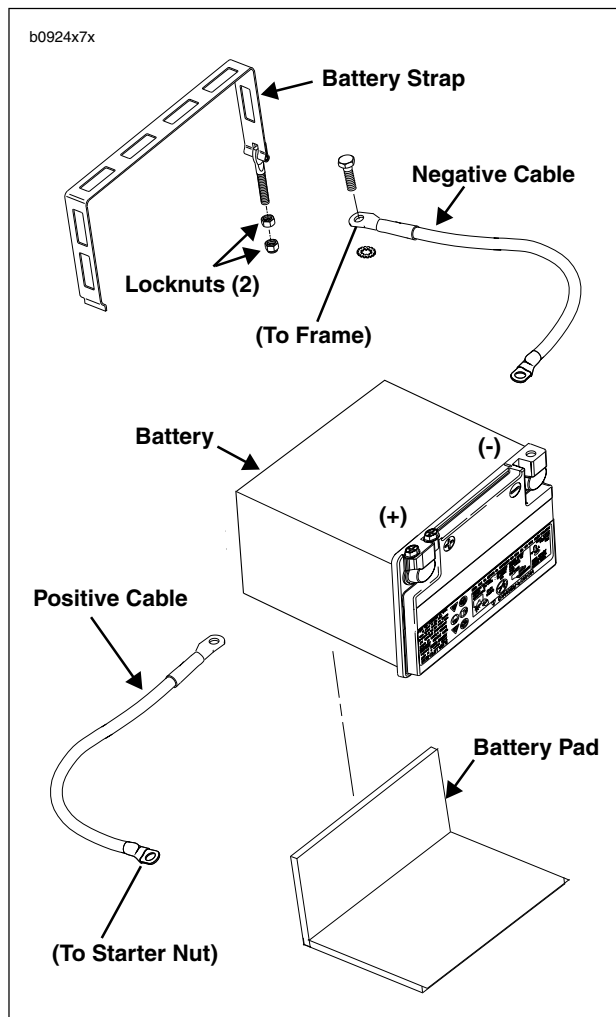

Figure 7-28. Battery
1. See Figure 7-28. Disconnect negative and positive cables from battery, negative cable first.
- a. See Figure 7-28. Positive battery cable runs from starter to positive battery terminal.